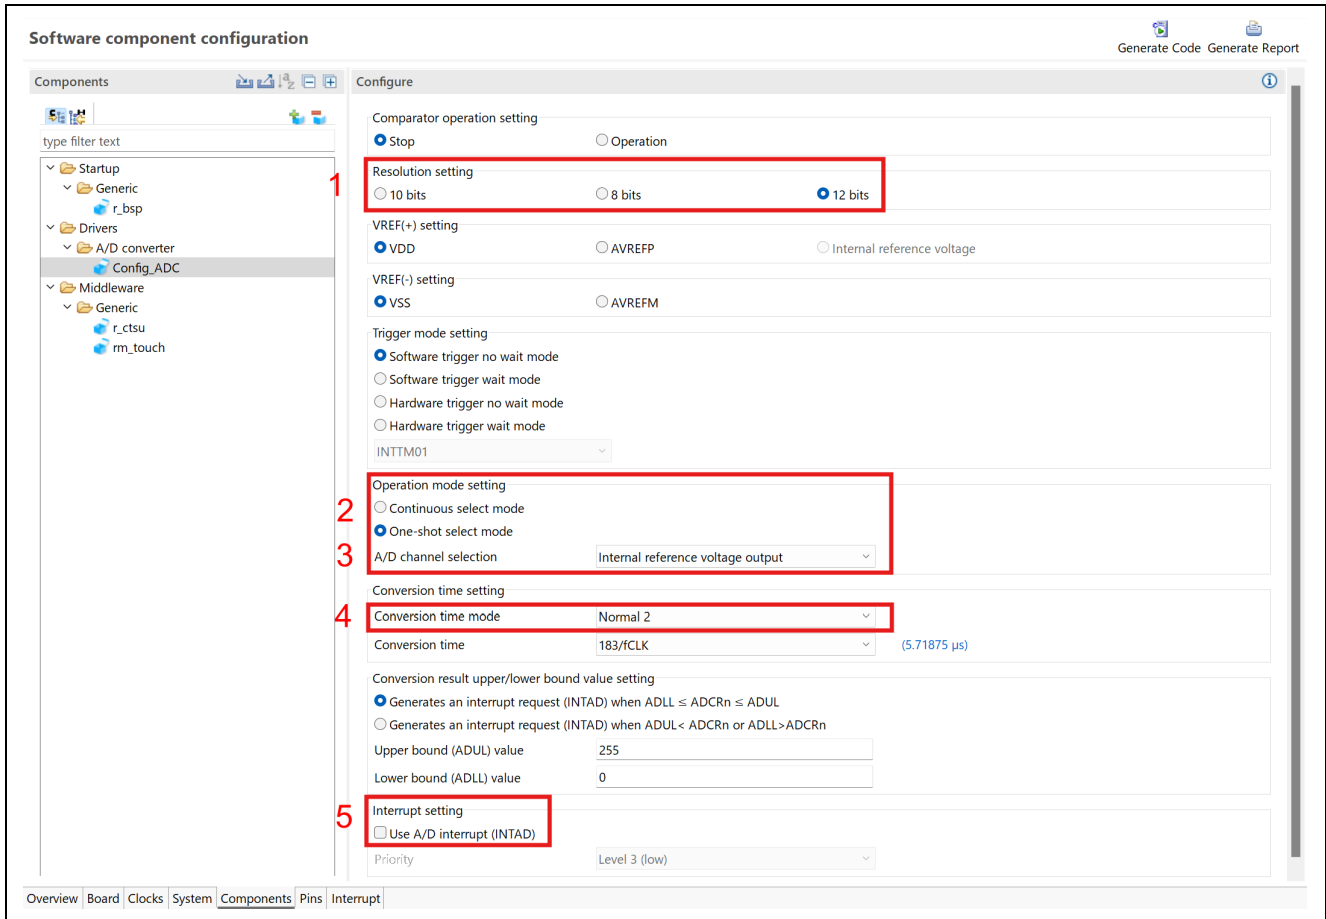

Figure 6-18 Configure ADC driver (RL78/G23, RL78/L23)
7. If you are using an RL78/G23 or RL78/L23, add the AD converter “Config_ADC” and change the following setting as shown in Figure 6-18.